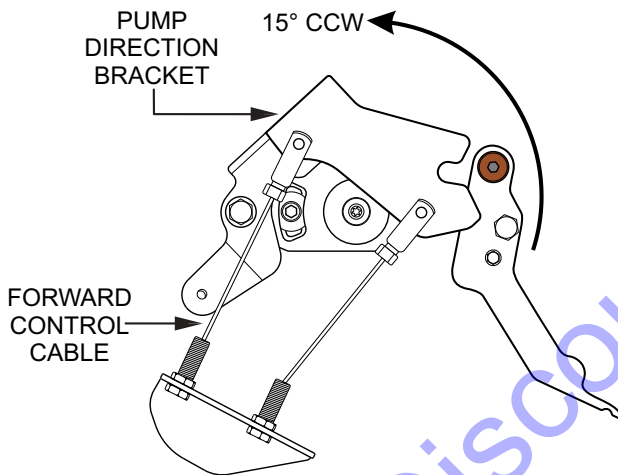

Figure 50. Pump Direction Bracket (CCW 15°)
5. Once the correct gap has been established and the forward control lever is fully engaged, verify that the **pump direction bracket** (Figure 50) rotates about 15° CCW.